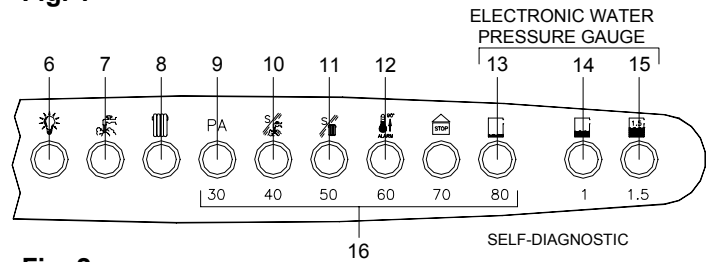

Fig. 2
SELF-DIAGNOSTIC LEGEND (see fig. 2)
- fill the system until a pressure of 1.5 bar has been reached (light no. 15 ON; see fig. 2) and then close the tap on the filling loop;
- before starting up the boiler the water pressure must be checked again; if this is seen to be below 0.5 bar (light no. 13 flashes; see fig. 2), bring it back up to 1.5 bar (light no. 15 ON; see fig. 2) and close the tap on the filling loop
- check the pressure in the system: if this has gone down and LED 13 (see fig. 2 pag. 10) comes on restore pressure;
- set selector switch 1 to either the ☀ summer or ❄ winter symbols (see fig.1 pag. 10); make sure that no. 6 light is ON (see fig. 2 pag. 10). The automatic ignition system will turn the burner on. It may be necessary to repeat the procedure a few times to purge air from the pipes. To repeat the ignition procedure press release button 2 (see fig.1 pag. 10) and then try the ignition procedure once again. If the boiler does not start, press the reset button 2 (see fig. 1 pag. 10). **IMPORTANT** should the boiler fail to ignite wait 3 minutes before pressing button again.